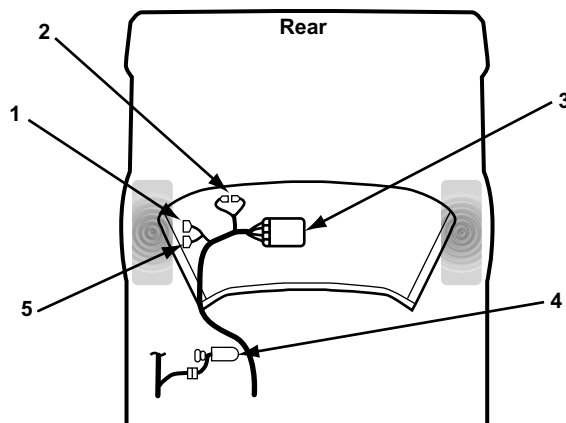

Figure 15-37 1986-87 XT
- “1986–87 XT” on page 202 (Figure 15-37)